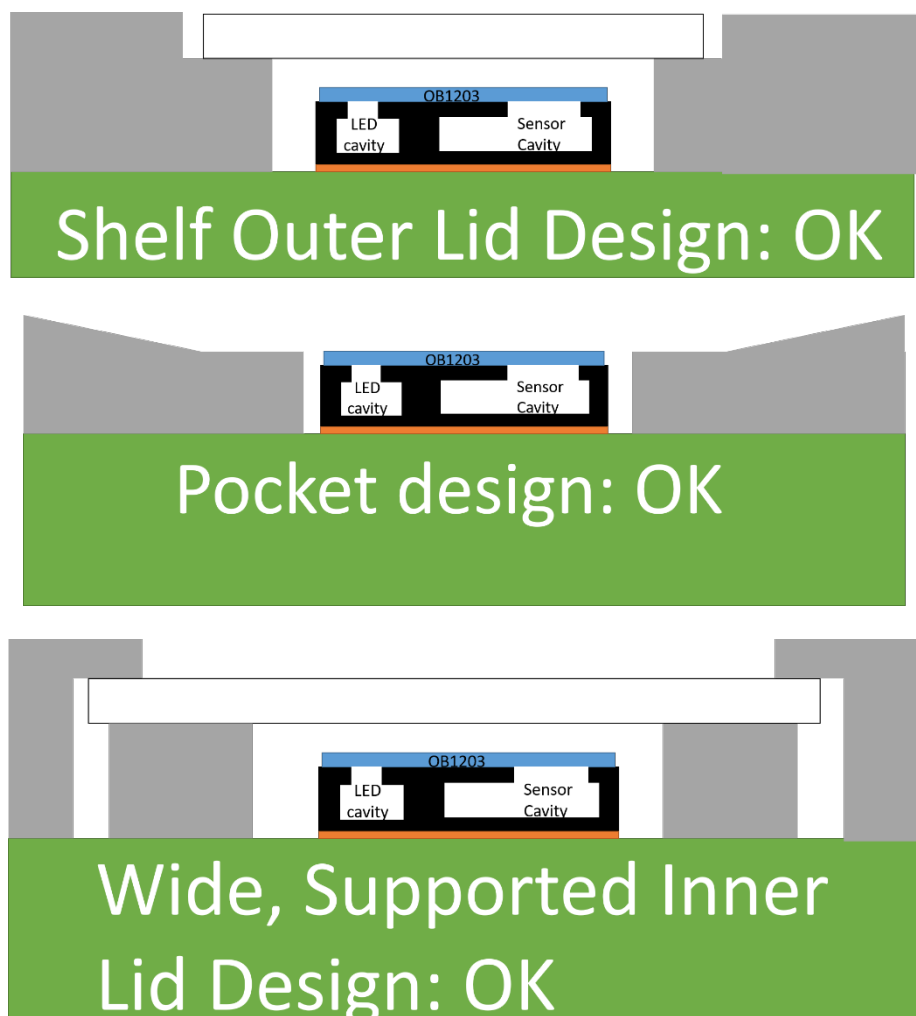

Figure 9. Better Design Options
Better designs shown in Figure 9 include designs based on (1) a recessed (shelf) lid that allows for a small lid, (2) a pocket design that surrounds OB1203 with support material and allows direct contact with OB1203's lid (sealant around the device may be necessary if UL approval is required), and (3) a lid supported from an inward facing shelf/recess. The inward facing lid is wider to avoid creating a “hole” that the user has to push their finger into. Unsupported inner lids are not recommended as pressure from the top and the lid could become detached. It is better to not rely on the adhesion strength of the lid.